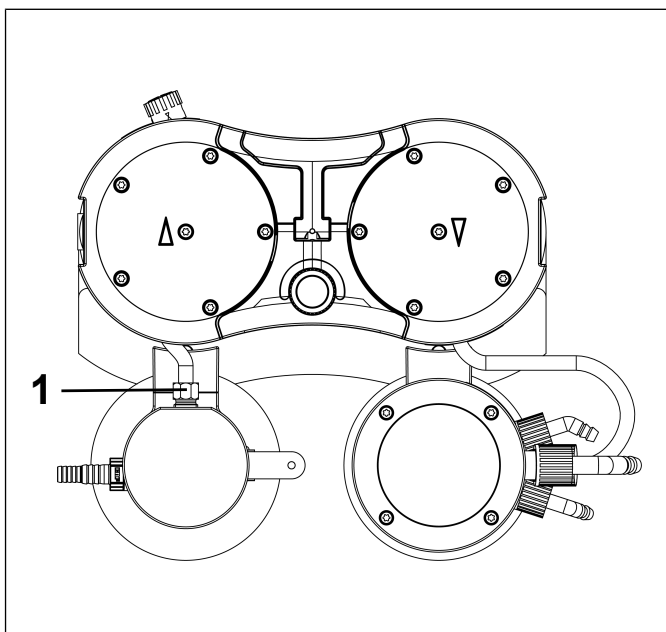

Fig. 10: Loosen hose connection
1. Loosen the union screw of the hose connection (1/Fig. 10) from the vacuum system component.
i If necessary, use a size 14 open-end wrench to loosen the union screw of the separator hose connection (1/Fig. 10).
8. Tighten the internal cap screw (1) in the center of the pressure plate (tightening torque: 1 Nm). Care must be taken not to overtighten this screw.
9. Tighten the screws (4) in a crosswise pattern (tightening torque: SH/SR820G: 4 Nm; SR/SH840G: 5 Nm)
10. Screw in the union screw of the separator hose connection (1/Fig. 10) on the inlet separator as far as it will go.
i If necessary, use a size 14 open-end wrench to tighten the union screw of the separator hose connection (1/Fig. 10)